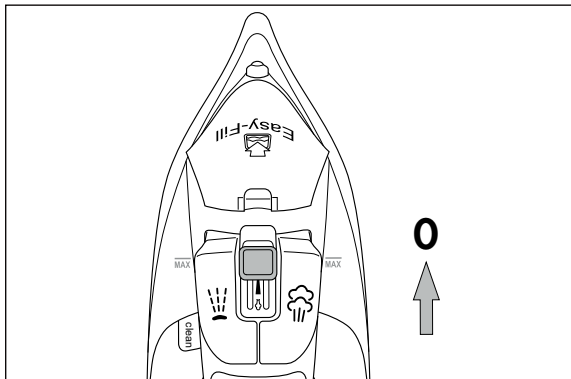

Fig. 2
- 1) Make sure that the steam control **3** is set to position **0** (see Fig. 2).
- 1) Slide the steam control ③ all the way up to position 0 (no steam) (see Fig. 2).
- 2) Allow the steam iron to heat up until the heat indicator LED ⑧ lights up continuously.